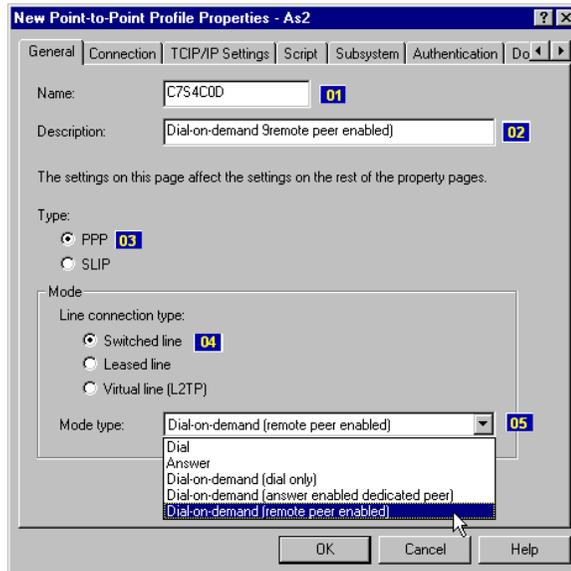

Figure 181. Configuring the General page of the C7S4C0D remote peer profile
- Enter a name and description. Select **Switched line** for Line connection type and **Dial-on-demand (remote peer enabled)** for Mode type. Only **PPP** for Type is allowed for ISDN connection (Figure 181).